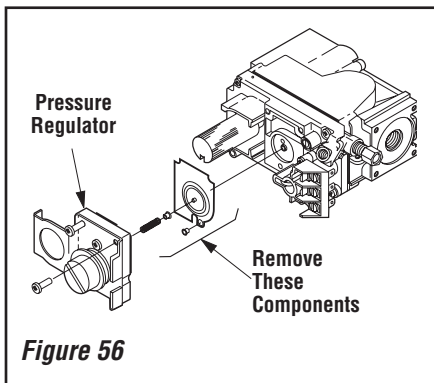

Figure 56
Step 5. SIT Systems - Refer to **Figure 56** and the instructions provided with the kit. Using a Torx T20 (with 1/4" shank and center hole), remove and discard the three pressure regulator mounting screws. Remove the pressure regulator, spring, poppet, diaphragm and bushing. **Discard all removed components.**